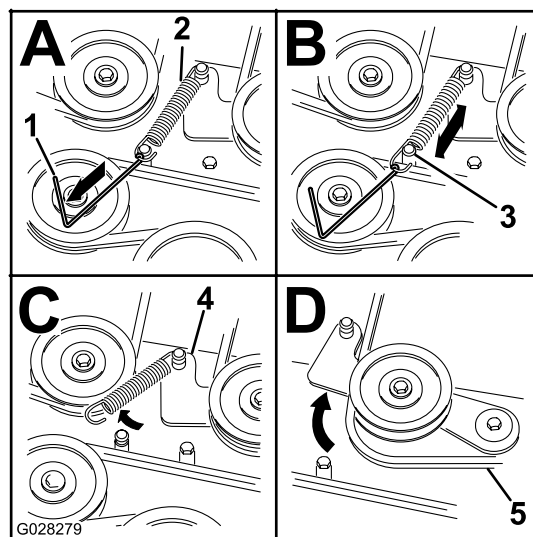

Figure 63
5. Remove the spring tension from the spring-loaded idler pulley; refer to Figure 63.
Note: Use the spring removal tool (Toro Part No. 92-5771) to remove the spring from the mower-deck post (Figure 63).